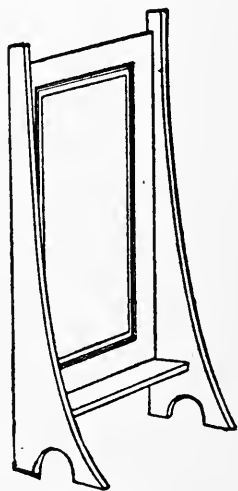

FIG. 133. — A Mirror.
**A Mirror** in a frame should be made for the living-room of the doll-house. A neat and suitable design for one of these will be seen in Fig. 133. For its construction cut two sides by means of the pattern in Fig. 123, a piece five inches long by three inches wide for the back, and a strip three inches long by three-eighths of an inch wide for a shelf. Fasten the sides to the edges of the back-piece, and the shelf between the sides about three-quarters of an inch above the base. Now procure a mirror such as you can buy in a toy-shop for five or ten cents (or a piece of a broken mirror cut down to the right size will do very nicely), and attach it to the centre of the back.